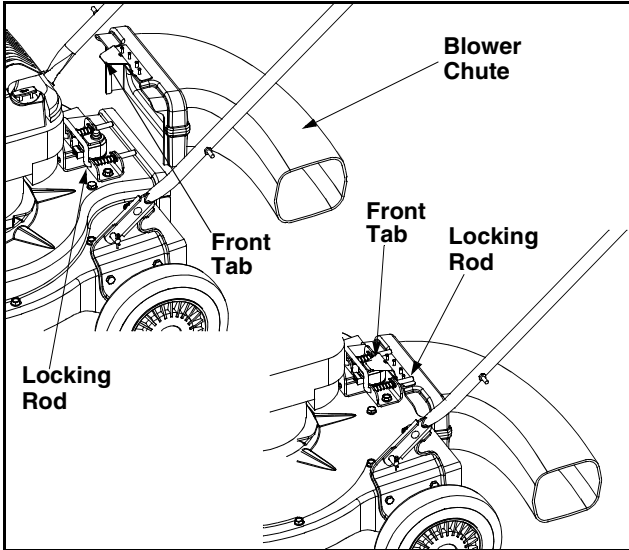

Figure 6
- Grasp blower chute with one hand and slide locking rod on mounting bracket with other hand toward engine. Use the end of mounting bracket as leverage when sliding the locking rod. See Figure 6.
- Grasp blower chute with one hand and pull lock rod on mounting bracket with other hand toward engine to release. Refer to Figure 6.